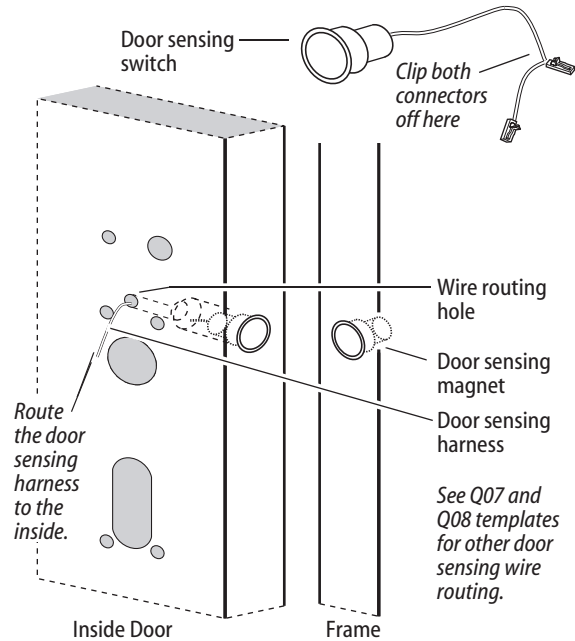

Figure 9 Installing the door sensing switch and magnet, BEST Precision 2100 shown
- 2 Clip off the connector from the white door sensing harness (with black sleeving) and leave as much wire as possible. See Figure 9. These wires will be butt-spliced to the sensing harness from the trim. See "Route sensor wires" on page 14.
- 3 Route the door sensing switch wires through the channel and out through the wire routing hole to the exit device side. See Figure 9.